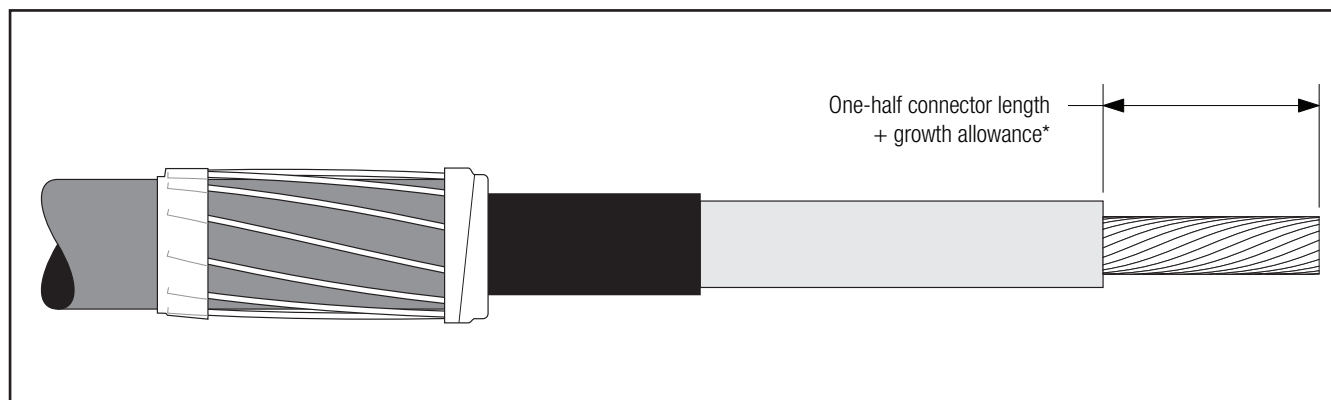

Figure 8
- 3.3 **If using a crimp type connector**, remove cable insulation for 1/2 connector length plus an allowance* for increases in connector length due to crimping. Insulation removal length shall not exceed 3 3/4" (95 mm) from conductor end. **Do not install connector now** (Figure 8).